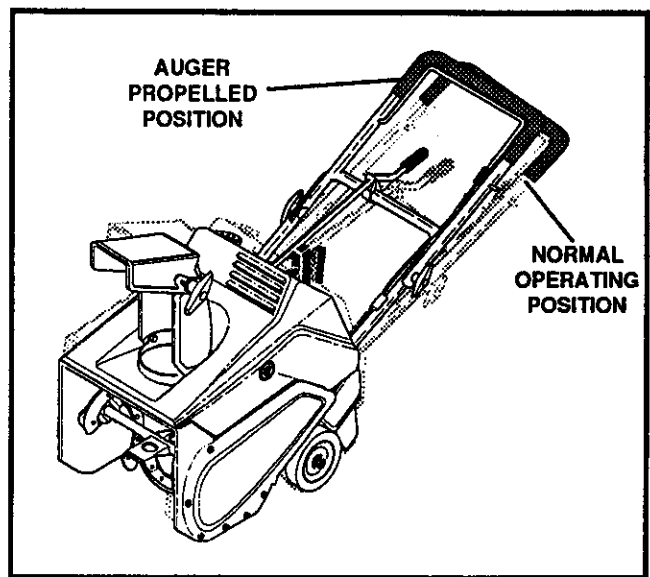

FIG. 3-OP
- To propel forward, raise the handle to allow the auger blades to contact the ground (See FIG. 3-OP).